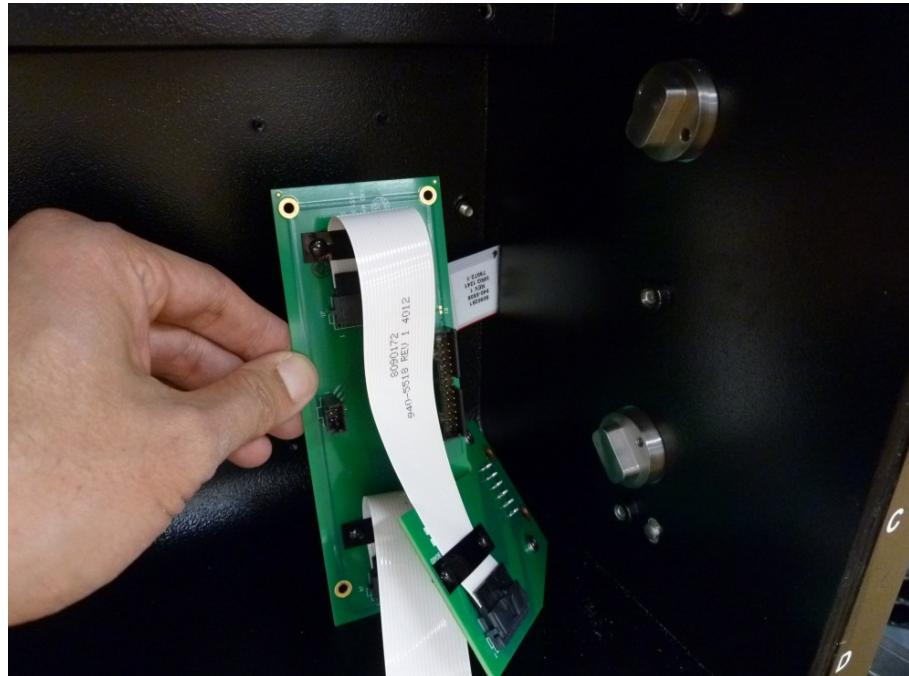

Figure 17
4. The row interconnect assembly is free to take out (**Figure 17**).